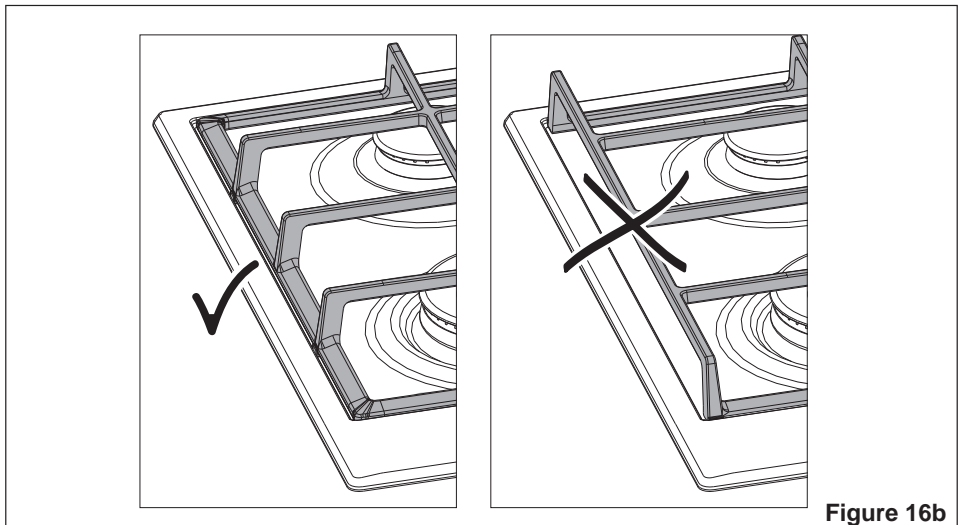

Figure 16b
- The raised portion of the pan supports shall NOT face the sides of the cooktop (fig. 16b).